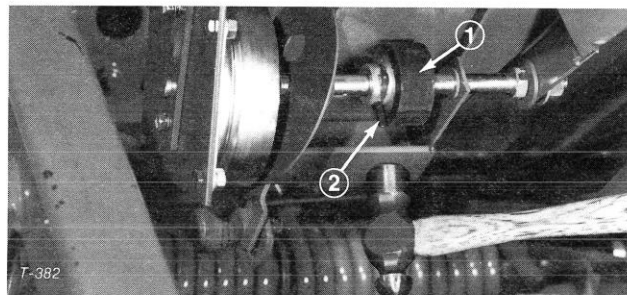

Figure 29
18. Align shaft hole with friction wheel hole and install roll pin (Fig. 29).